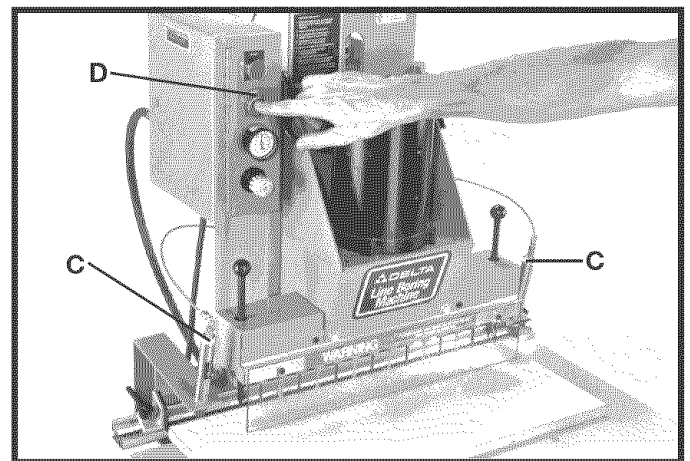

Fig. 69
4. Press the reset button (D) Fig. 69. This will raise the two air clamp plungers (C) allowing you to reposition the work-piece and re-start the machine.